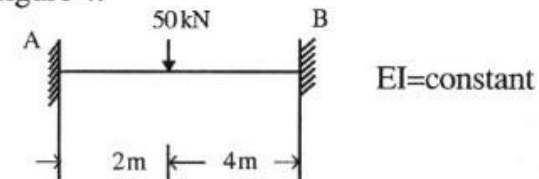

Figure 4
- d) Analyse the beam, using column analogy method shown in figure 4.